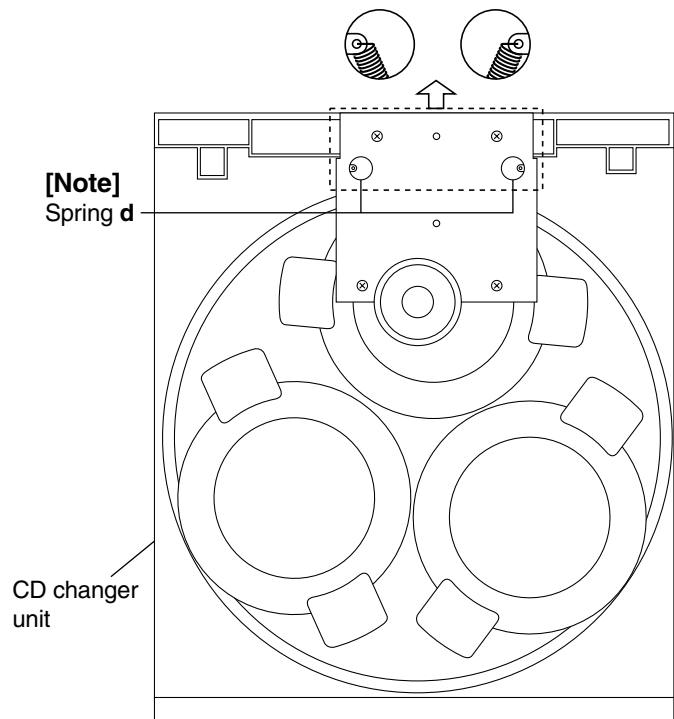

Fig.15
■ Removing the CD changer mechanism assembly (See Fig.15 to 17)